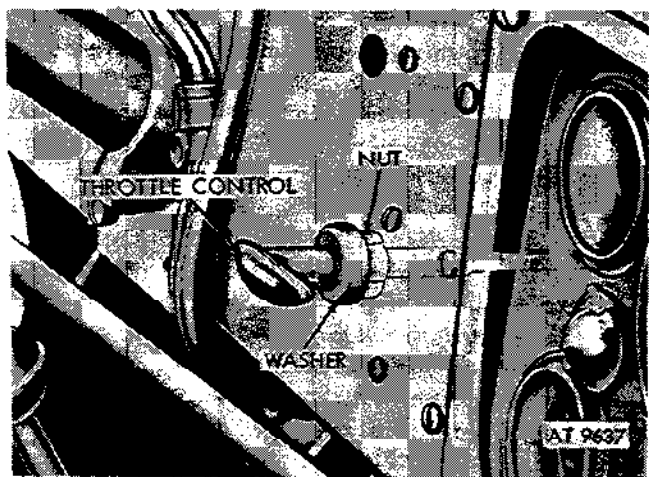

Figure 2-107. Remove throttle control assembly.
b. Installation. Install throttle control assembly by removal operations. Refer to figures 2-107 and 2-107.